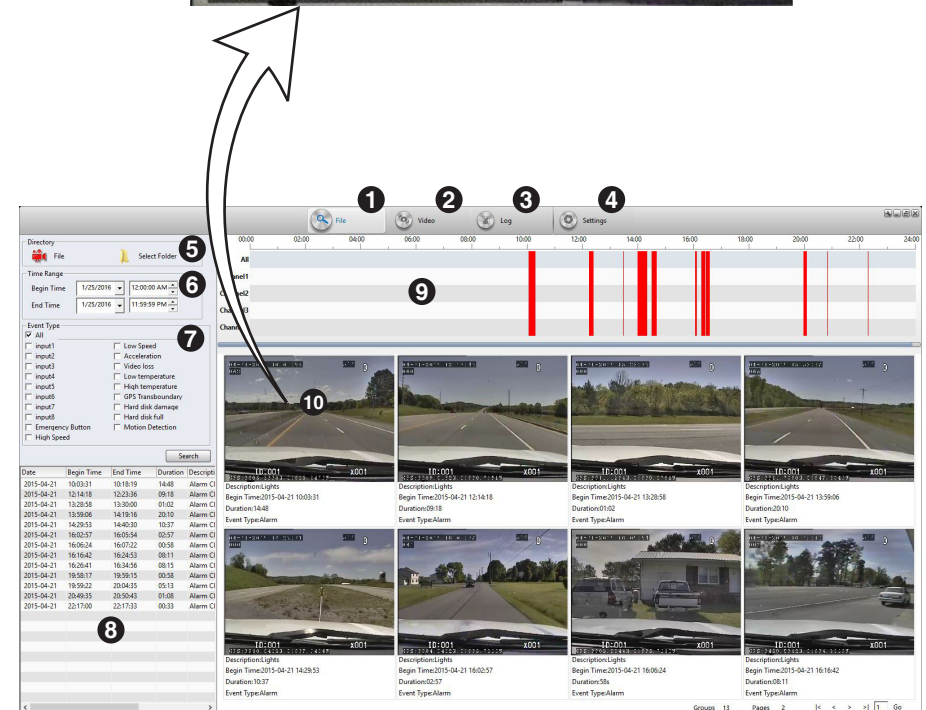

FIG. 15
Allows you to browse or search for video files. This is the view shown in FIG. 15.
- 1 Click on the **'File Tab'** (#1 - FIG 15).
- 7 All of the available files in the selected folder will appear in the **Video Thumbnails List** (#10 - FIG 15)
- 1 Click on the **'File Tab'** (#1 - FIG 15) if you're not already in that tab.
- 2 If you wish to narrow down the search by date, use the **'Time Range Filter'** (#6 - FIG 15) section to define the date range to search.
- 3 Then choose the appropriate event types from the **'Event Type Filter'** section (#7 - FIG 15) to further refine the search.